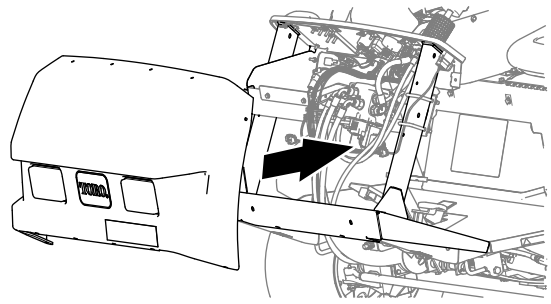

Figure 93
1. Align the holes in the hood with the holes in the chassis of the machine (Figure 93).